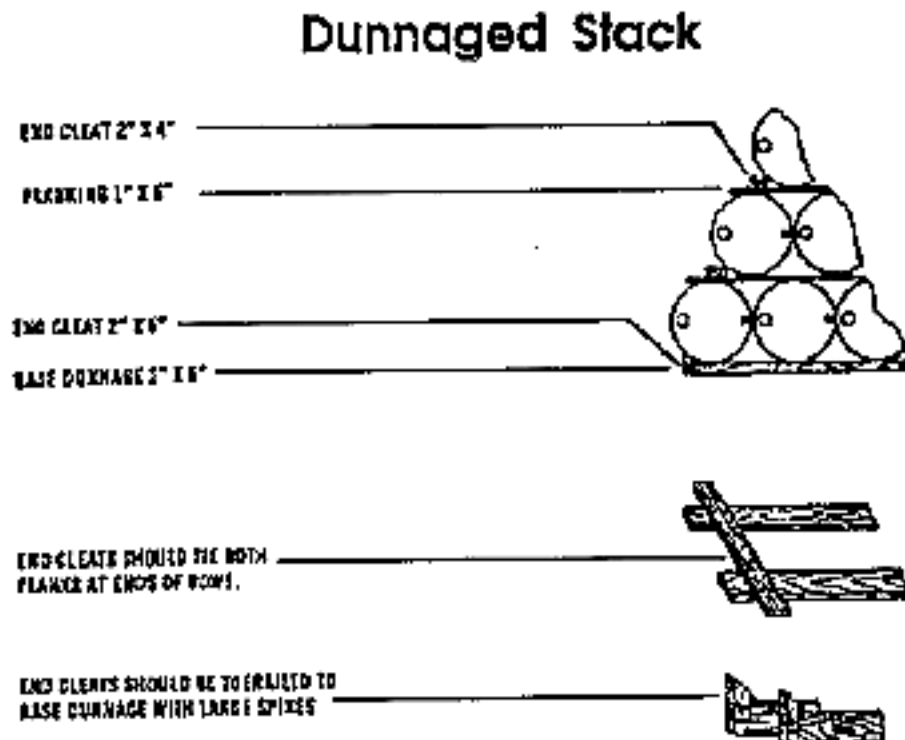

Figure I-3. Dunnaged stack.
- Make a foundation for each unit of drums by laying out four 70-foot rows of 2-by 6-inch lumber or other suitable dunnage. Stand the lumber on edge, attaching cross braces between the rows to hold the lumber in place, as in figure I-3.
- Attach wooden cleats to the dunnage at the ends of each row (figure I-3).
- Place two double rows of 1-inch planks on top of the first tier. Then attach wooden cleats to the planks at the end of each row (figure I-3).